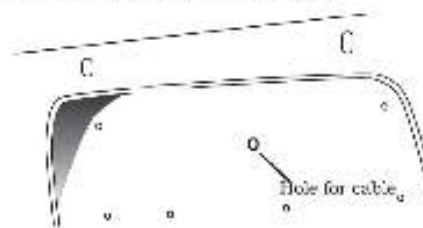

Fig.2
3. With the license plate off, check if there are pre-existing holes through which the cables from the camera can be passed through to the boot of the vehicle as in Fig. 2. If there are no pre-existing holes carefully drill a hole of sufficient diameter to allow the cables to be passed into the interior of the vehicle (through a rubber grommet), and seal the hole with silicone to avoid water leakage.